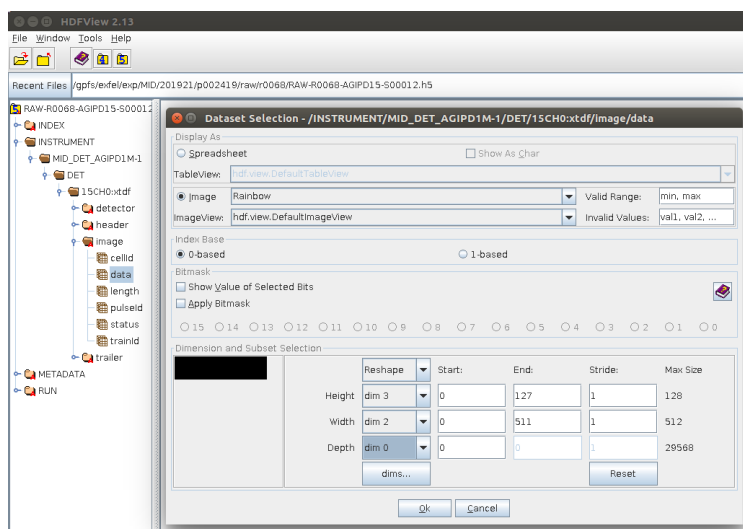

Fig. 3.5: The hdf5 viewer
- right click on data and choose 'open as', in the window that opens choose for 'Display as' 'Image', set the Palette to rainbow. Set the dimensions to: Height=3, Width=2, Depth=0 (see also Fig. 3.5)